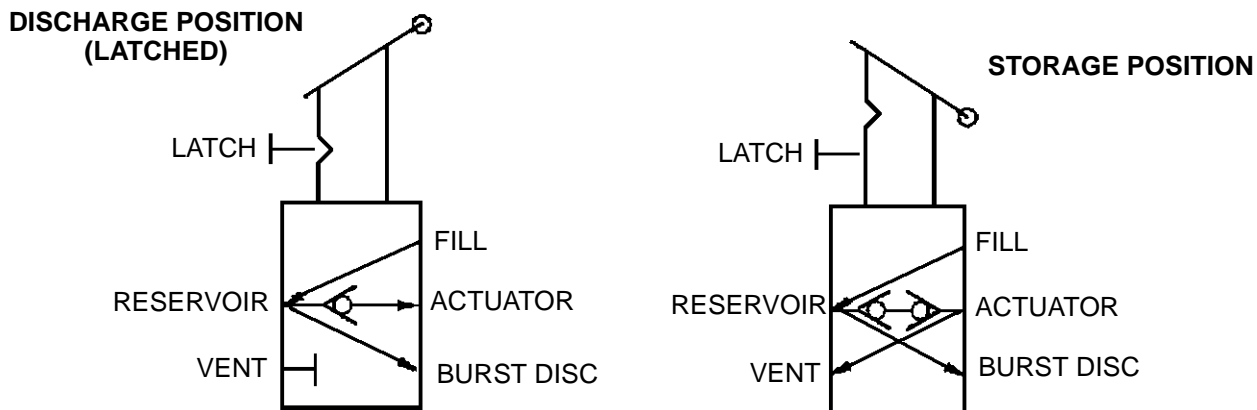

Figure 5. Valve Positions
- D. The valve actuates from the 'storage' to the 'discharge' position (Figure 5) and must be manually released before returning to the 'storage' position.